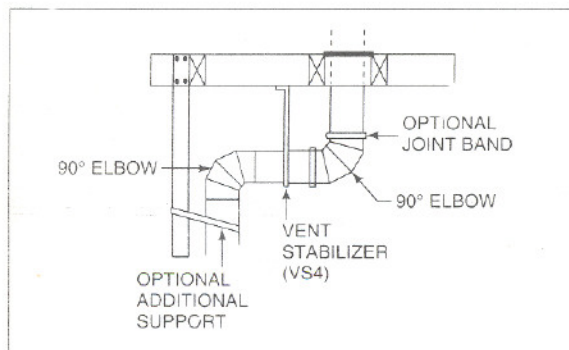

Figure 11
a. Using elbows. To bypass any overhead obstructions, the chimney may be offset using either a 45° elbow (EL45) or a 90° elbow (VK5). Vent stabilizers (VS4) have straps for securing these parts to joists or rafters. Plumbers tape may be purchased locally and used in conjunction with vent stabilizers. See Figure 11.